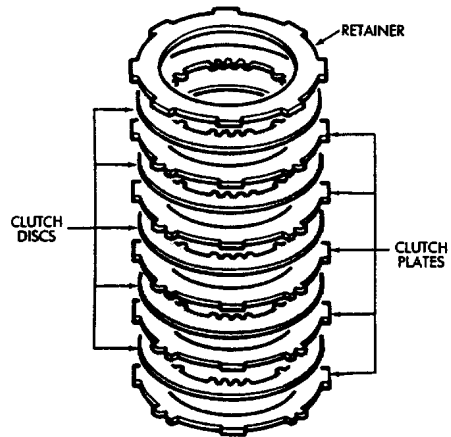

Fig. 15 Installing Forward Clutch Discs And Plates
(10) Install clutch discs, plates and retainer (Fig. 15). Install tabbed plate followed by disc until required number of plates and discs are installed. Use six plates and discs in a 6-cyl. transmission and five plates and discs in a 4-cyl. transmission.
(11) Install clutch pack snap ring.
(12) Recheck clutch piston stroke length using same method outlined at beginning of disassembly procedure. If stroke length is not within specified limits, replace clutch discs.